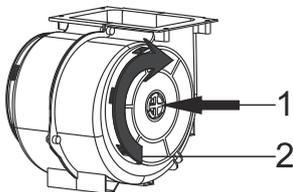

Fig. 5: AF 100 CARBON FILTER
- 1-Place the carbon filter in its housing.Fig. 5
- 2-Rotate the carbon filter clockwise and make sure that it is seated completely.Fig. 5